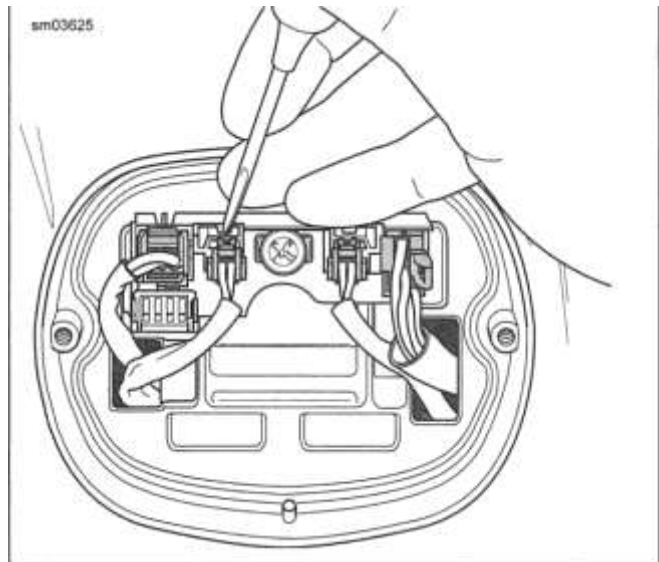

Figure 8-69. Use Pick Tool to Release Turn Signal Lamp Socket
1. See Figure 8-69. Disconnect all connectors.